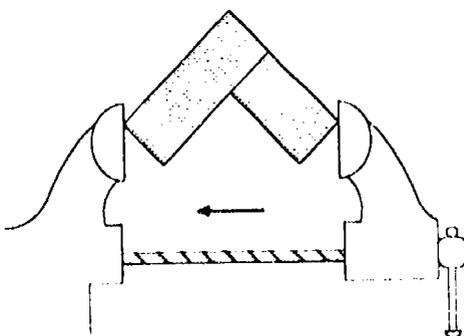

Figure 9. Test 3: if the boards are at right angles, place them in a vise as shown here.
- Place the pair of boards in a vise as shown in Figure 9.